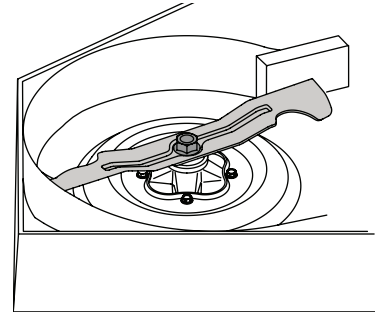

Figure 39
2. Use a 1-1/8" wrench to hold the hex nut on top of the spindle assembly when loosening the bolt securing the blade. A block of wood may be placed between the deck housing and the cutting edge of the blade to help in breaking loose the hex nut securing the blade. See Figure 39.